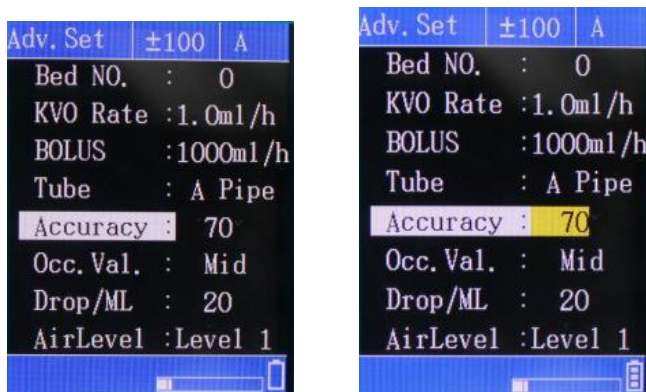

Fig 29
- If the liquid flowed into the measuring cup in Step 1 is 1ml more than 20ml, then add 3 to the accuracy value. If the liquid flowed into the measuring cup is 1ml less than 20ml, then reduce 3 from the accuracy value. If the liquid flowed into the measuring cup is the same as the volume limit 20ml, then there is no need to adjust the accuracy. Press the  $\uparrow$  key or the  $\downarrow$  key to select the parameter of “Accuracy” as shown in Fig 29. Press the **ENTER** key to make the accuracy value adjustable, and then press the  $\uparrow$  key or the  $\downarrow$  key to set a suitable accuracy value. Finally, press the **ENTER** key to save the value.